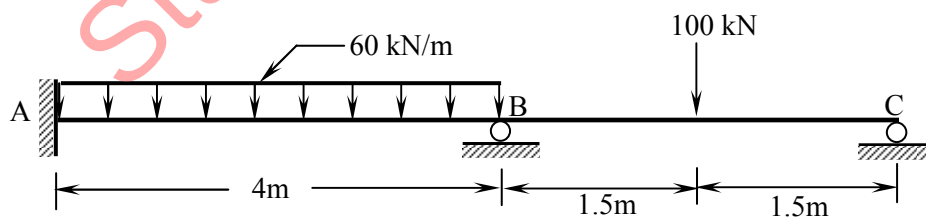

Figure 5.
- Q.5 (a)** Calculate the stiffness matrix (S) and load vector (A_D-A_{DL}) for the structure shown in the Figure 5. Take EI constant. **07**